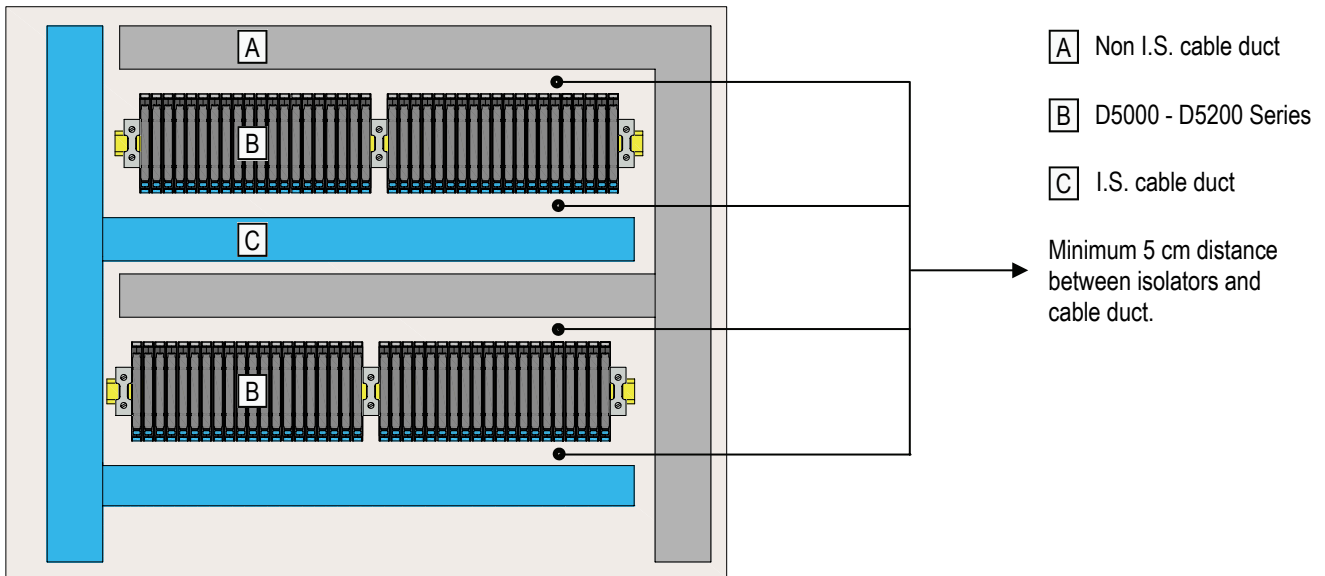

Fig. 1 Horizontal orientation in the cabinet
5. Take care about reasonable distance between D5000 and D5200 series and cable channels. We recommend a distance of 5 cm. (see figure 1 and 2). If the place in the cabinet does not allow to keep the distance we strongly recommend to place the DIN-Rail away from the back side of the cabinet by means of distance bolts.